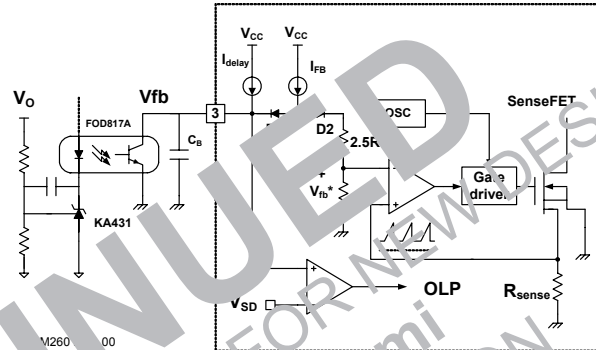

Figure 17. Pulse Width Modulation (PWM) Circuit
2. Feedback Control: FSFM260/261/300 employs current-mode control, as shown in Figure 17. An optocoupler (such as the FOD817A) and shunt regulator (such as the KA431) are typically used to implement the feedback network. Comparing the feedback voltage with the voltage across the R_{SENSE} resistor makes it possible to control the switching duty cycle. When the reference pin voltage of the shunt regulator exceeds the internal reference voltage of 2.5V, the optocoupler LED current increases, pulling down the feedback voltage and reducing the duty cycle. This typically occurs when the input voltage is increased or the output load is decreased.
2.1 Pulse-by-Pulse Current Limit: Because current-mode control is employed, the peak current through the SenseFET is determined by the inverting input of the PWM comparator (V_{FB}^*), as shown in Figure 17. When the current through the opto-transistor is zero and the current limit pin (#4) is left floating, the feedback current source (I_{FB}) of 0.9mA flows only through the internal resistor ($R+2.5R=2.8k$). In this case, the cathode voltage of diode D2 and the peak drain current have maximum